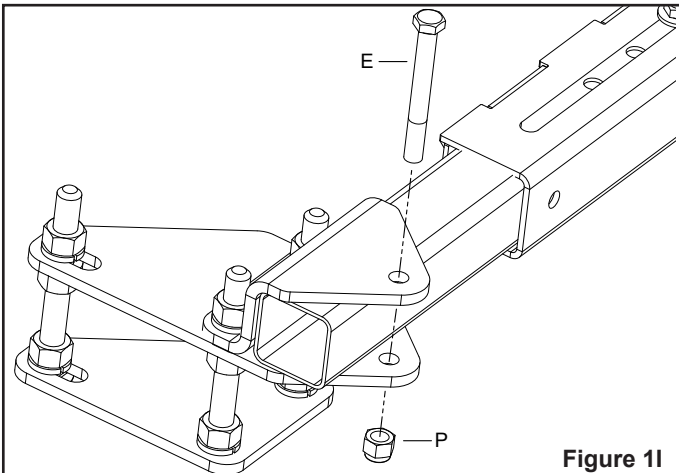

Figure 1I
STEP 1I: (SEE FIGURE 1I)
- On the left side make sure the slider tube (11) is up against the inside of the upper plate (18).
- Install a hex bolt (E) through the upper plate (18) and the middle plate (19).
- Install hex nut (P); do not fully tighten.